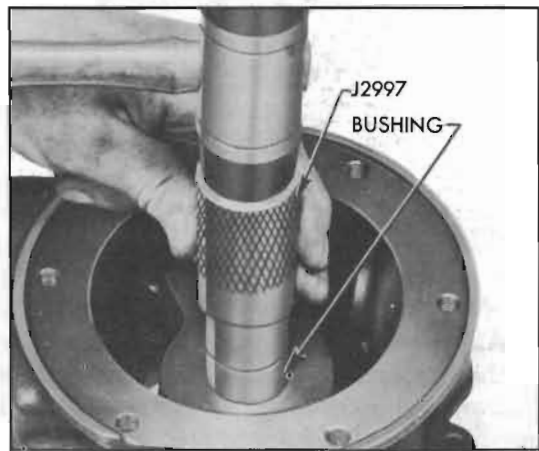

Figure 4-121—Bushing Remover and Replacer J 2997
4. Inspect the rear bearing retainer bushing for scoring or excessive wear. Insert the output shaft in bushing and check the clearance, which should be .001" to .006". Replace the bushing if it is excessively worn, using Bushing Remover and Replacer J 2997. See figure 4-121. Reaming to size is not required.